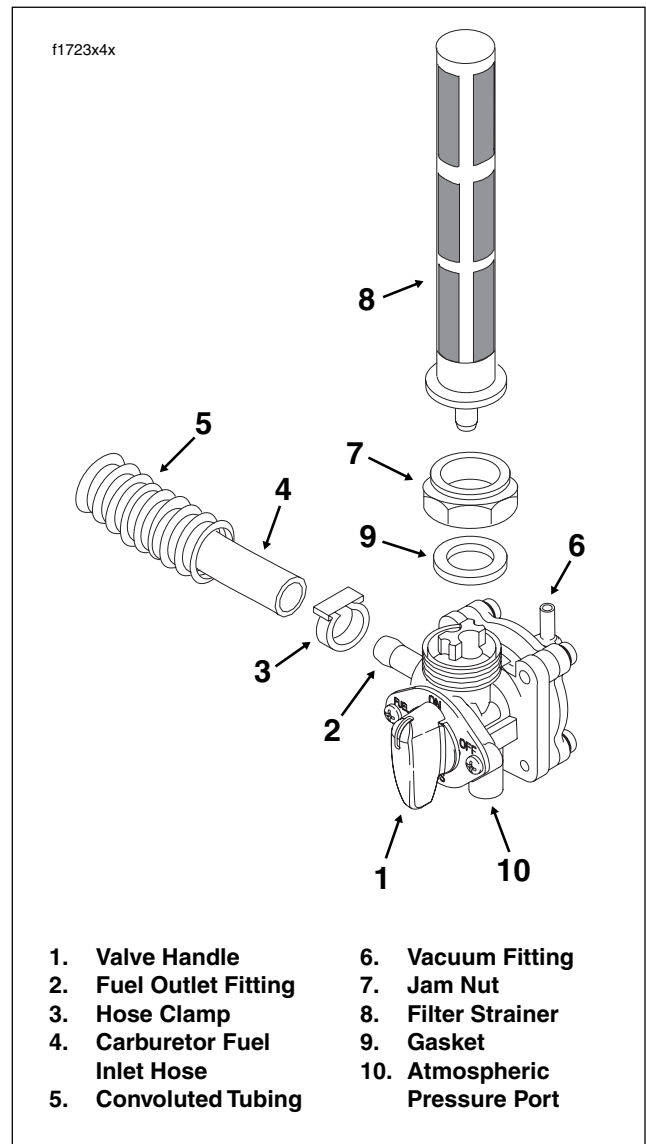

Figure 1-23. Vacuum Operated Fuel Valve
2. Using a side cutters, cut clamp and remove hose from fuel outlet fitting at front of fuel valve. See Figure 1-23. Drain free end of hose into a suitable container.